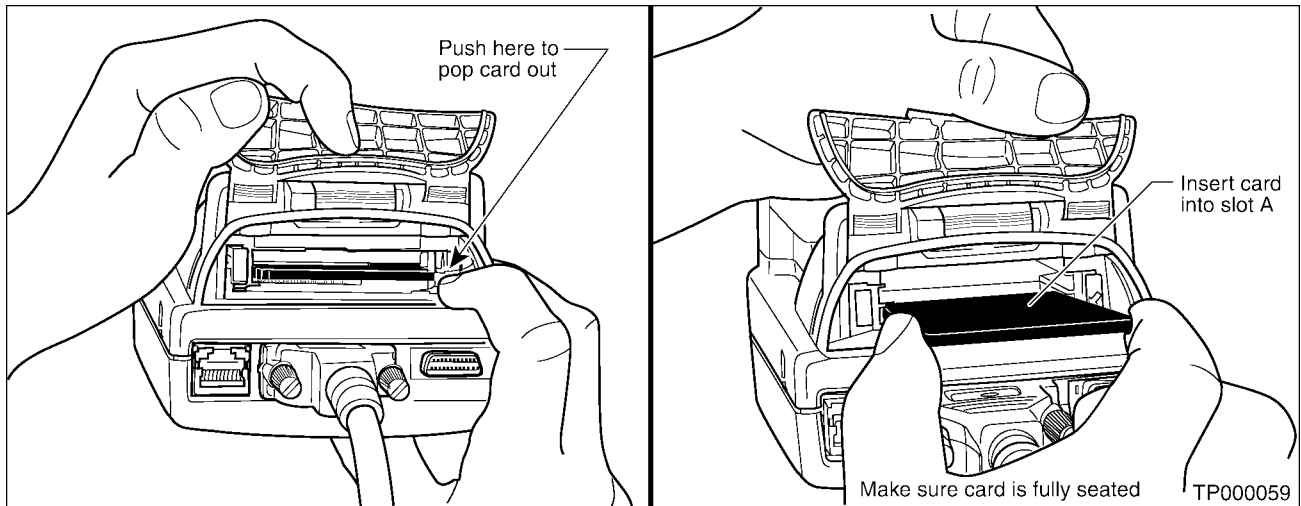

Figure 8
9. Remove the NATS (purple) card from CONSULT-II and install the Diagnostics (blue) card (see Figure 8).